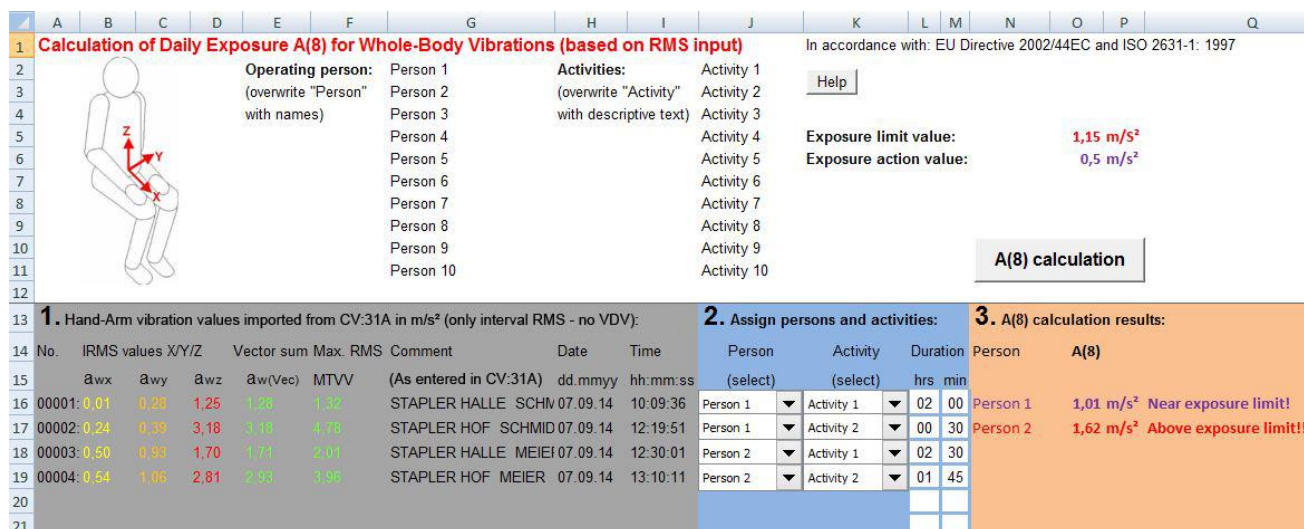

Figure 39: Daily exposing calculation in Excel
Click "A(8) calculation" or, in the case of VDV, "Daily exposure calculation" to calculate the vibration exposure (Figure 39).